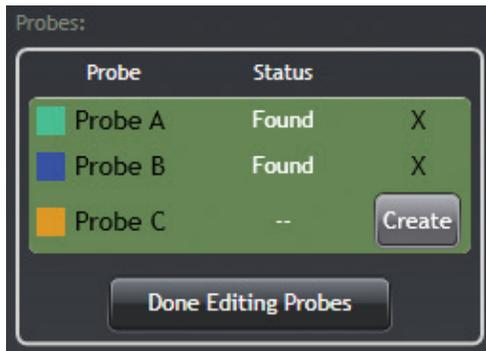

Figure 3-19: Deleting and creating probe displays
2. If you need to delete the display of a probe from the system, click the appropriate X button to remove the probe, shown in Figure 3-19.
3. If you need to create the display of a probe, click the appropriate Create button, as shown in Figure 3-19. Scroll through the slices and find the location on the scan where the tip of the probe is displayed.